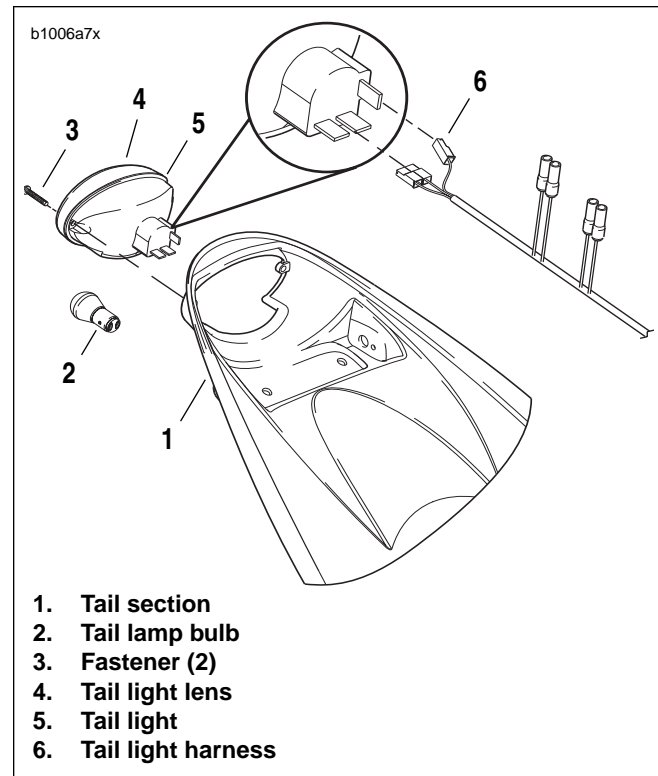

Figure 7-49. Tail Lamp Assembly
1. See Figure 7-49. Remove two screws (3) to detach tail light lens (4) and tail light (5). If replacing bulb (2), turn counterclockwise and remove.
2. Disconnect two connectors [93] from tail lamp harness (6).
1. See Figure 7-49. Attach the two tail light harness connectors [93] (6).
2. If removed, install tail lamp bulb (2).
- b. Install tail light lens (4) and tail light (5) with two fasteners (3) and tighten to 6-7 **in-lbs** (0.7-0.8 Nm).